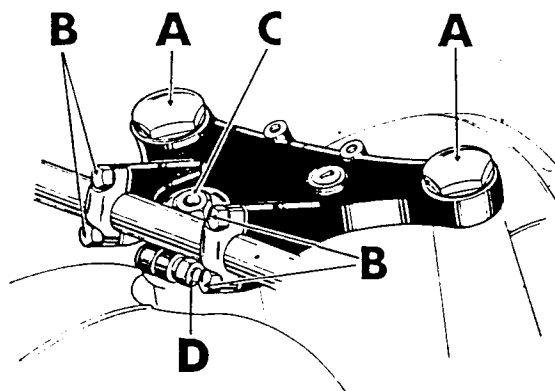

FIG. E.3.
Slacken the pinch bolt (D), remove the cap (C), and unscrew and remove the adjusting sleeve which is underneath cap (C) Fig. E.3. Unscrew
Remove the two caps (A) Fig. E.3, and release the damper rods allowing them to drop down into the main tubes.